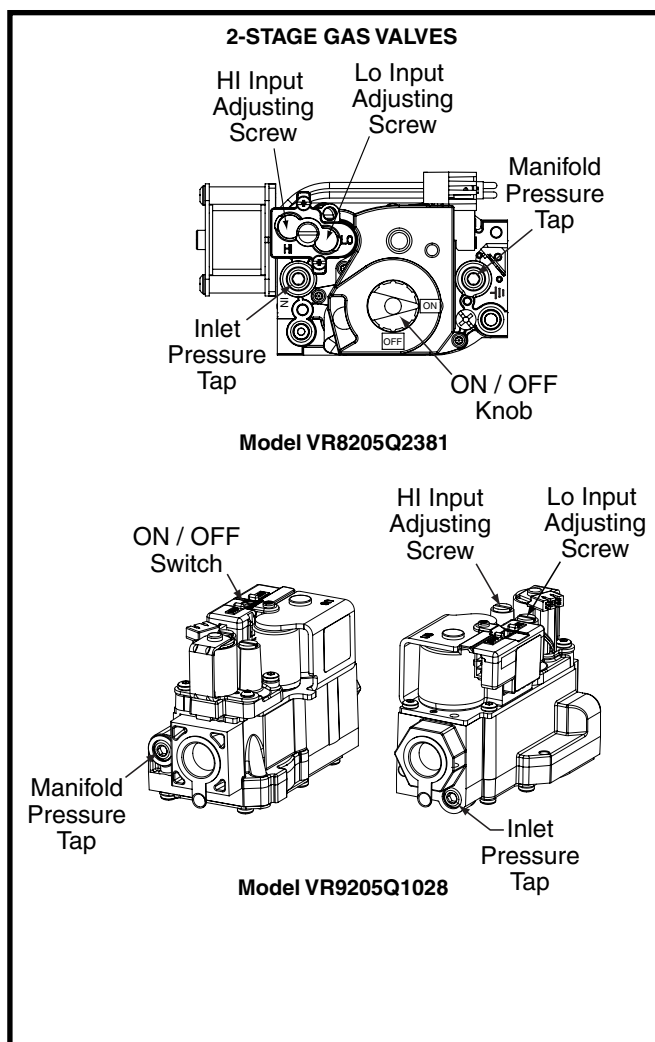

Figure 20. HI & LO Input Adjusting Screws
7. Remove the regulator capscrew from the INLET side of the regulator. See Figure 20, \(page 23\).